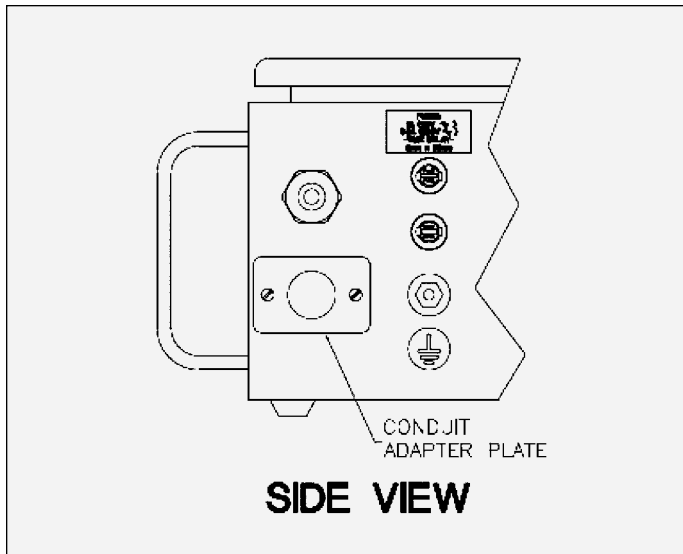

Figure 6: Installation of Conduit Adapter Plate
3. Install the Conduit Adapter Plate (See Accessories Section) in the hole where the AC inlet receptacle was removed (see Figure 6).